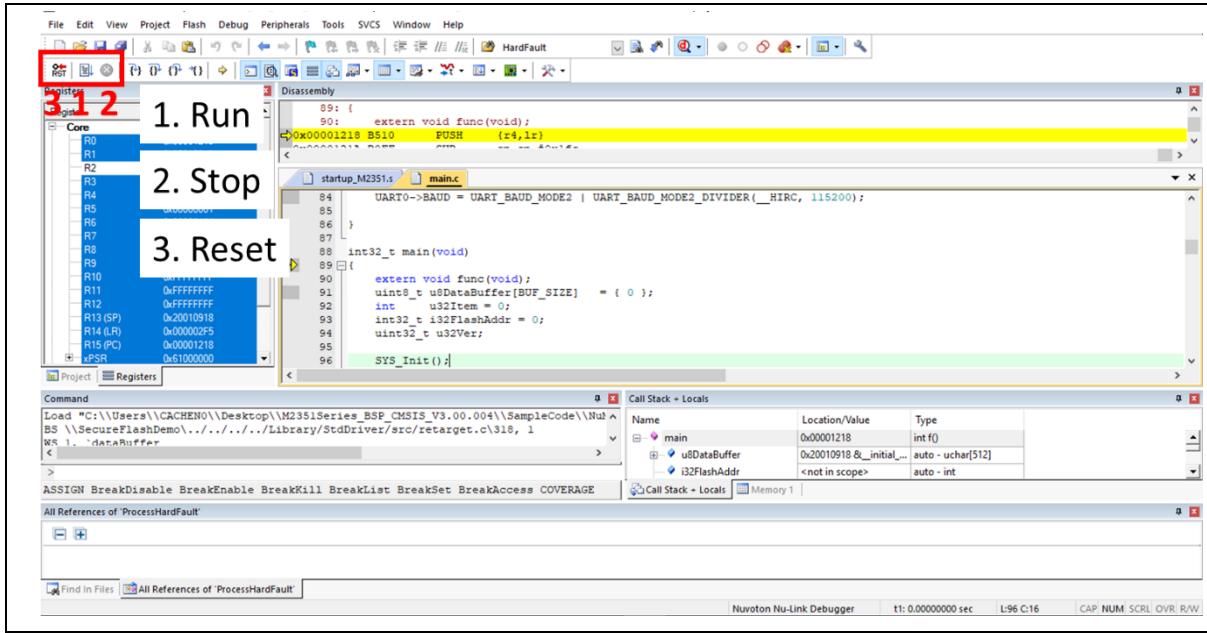
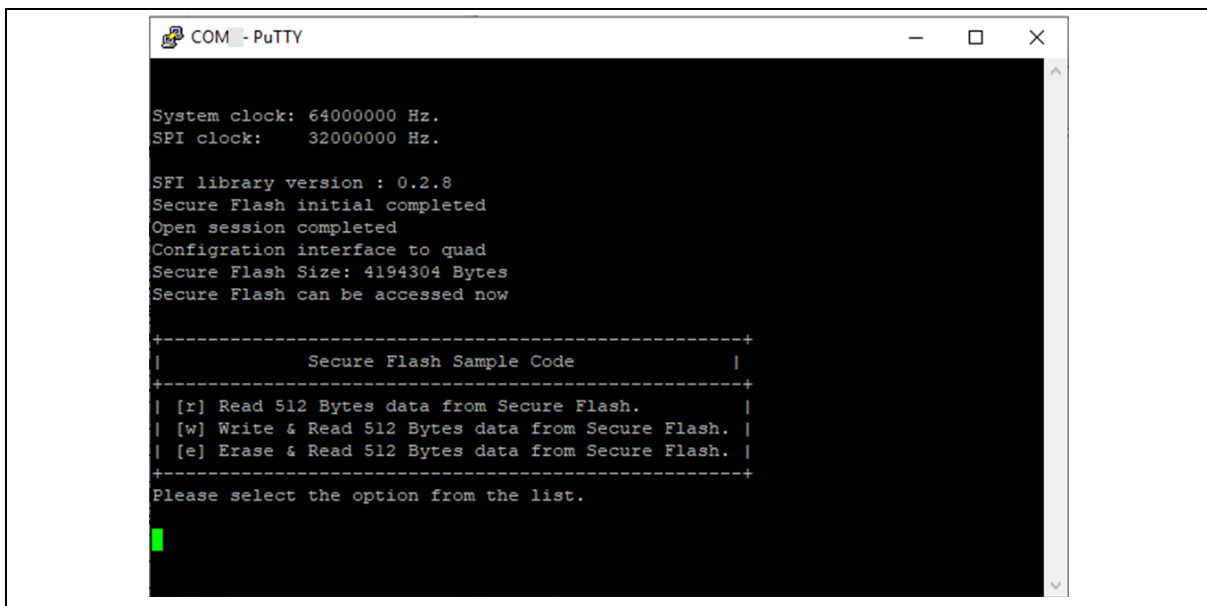

Figure 3-13 Keil MDK Debug Mode
Figure 3-14 Debug Message on Serial Port Terminal Windows
- Figure 3-13 shows the debug mode under Keil MDK. Click “Run” and the debug message will be printed out as shown in Figure 3-14. User can debug the project under debug mode by checking source code, assembly language, peripherals’ registers, and setting breakpoint, step run, value monitor, etc.